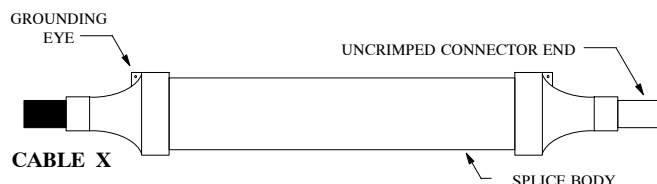

FIGURE 2
6. Slide the splice body onto connector and cable "X" until the uncrimped connector end is exposed. See Figure 2.